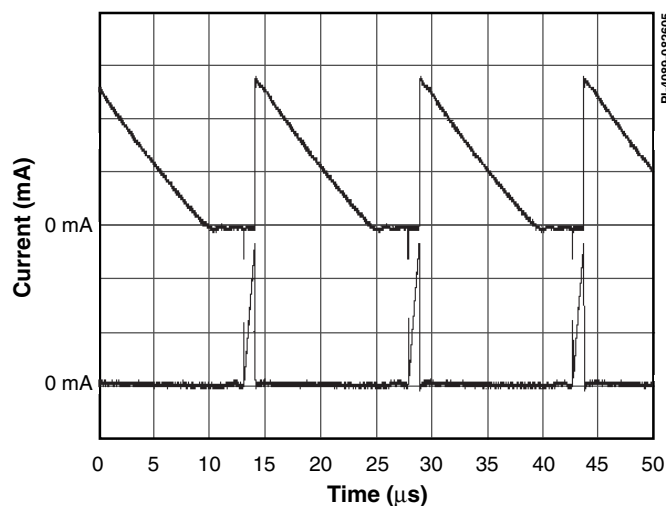

Figure 3. Output Current (Top Trace) and Input Current (Bottom Trace), 50 mA/div, 5 ms/div.
- For better EMI performance, operate the circuit strictly in DCM (see Figure 3 – output current decays to zero in every switching cycle).